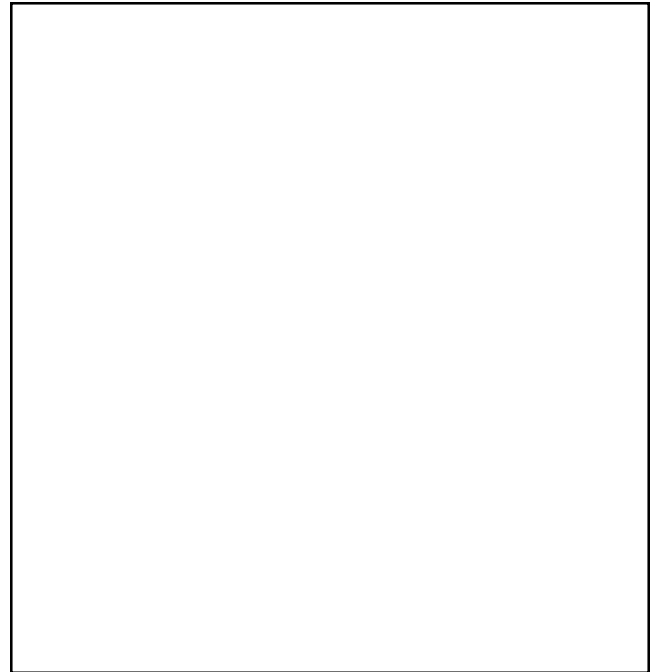

Figure 7-2. Sail method of manhole ventilation
(2) *Sail method.* The sail method (figure 7-2), ventilates the manhole by using the wind. A piece of plywood or some other material is placed over the manhole. The edge of the plywood facing the wind is lifted up until the plywood forms about a 45 degree angle with the manhole opening. The wind enters the manhole, forcing possible contaminated air out of the manhole.